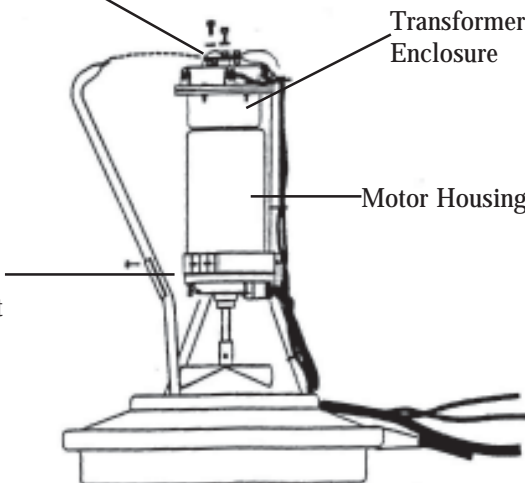

Figure 23
- A. Remove one of the support arms from your aerator by taking off (2) 1/4" nuts at the brass mounting ring (see Figure 23) and (1) 5/16" bolt and nut from the Support Arm Brace (see Figure 23). Tip arm outward.**